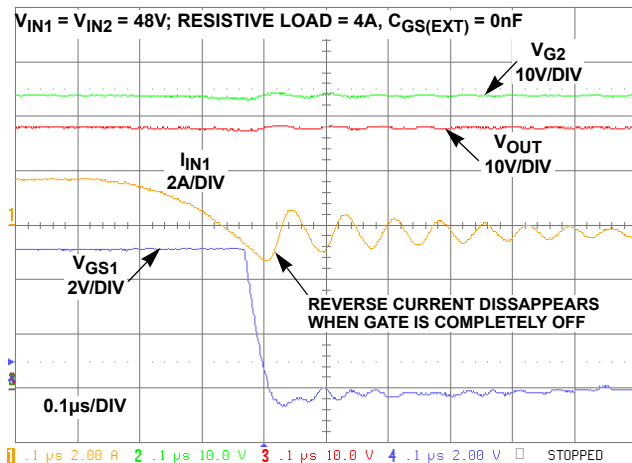

FIGURE 21. FAST SPEED TURN-OFF
tDELAY(HS) is the High Speed Comparator internal worst-case time delay. The setup in Figure 17 can be used to perform the Input dead-short test; a pulse generator is connected between Gate-Source of QSHORT1 (use pulse mode single shot, set the frequency to <10Hz and pulse width of approximately 10ms, tRISE = 1µs). Follow steps 1 through 5 in the two feed parallel operation section. Make sure that both feeds operate in parallel current sharing mode. Proceed with the short test by applying the single pulse to the gate of QSHORT1. Once turned on, QSHORT1 shorts VIN1 causing it to fall quickly (in less than 10µs). Figures 21, 22 and 23 show the results for different combinations of CGS1 and load current. Make sure to connect the VIN1 shorting-MOSFET terminals as close as possible to the VIN-GND (J4 to J6) terminals on the EVAL board to minimize lead impedance and reduce parasitic ringing.